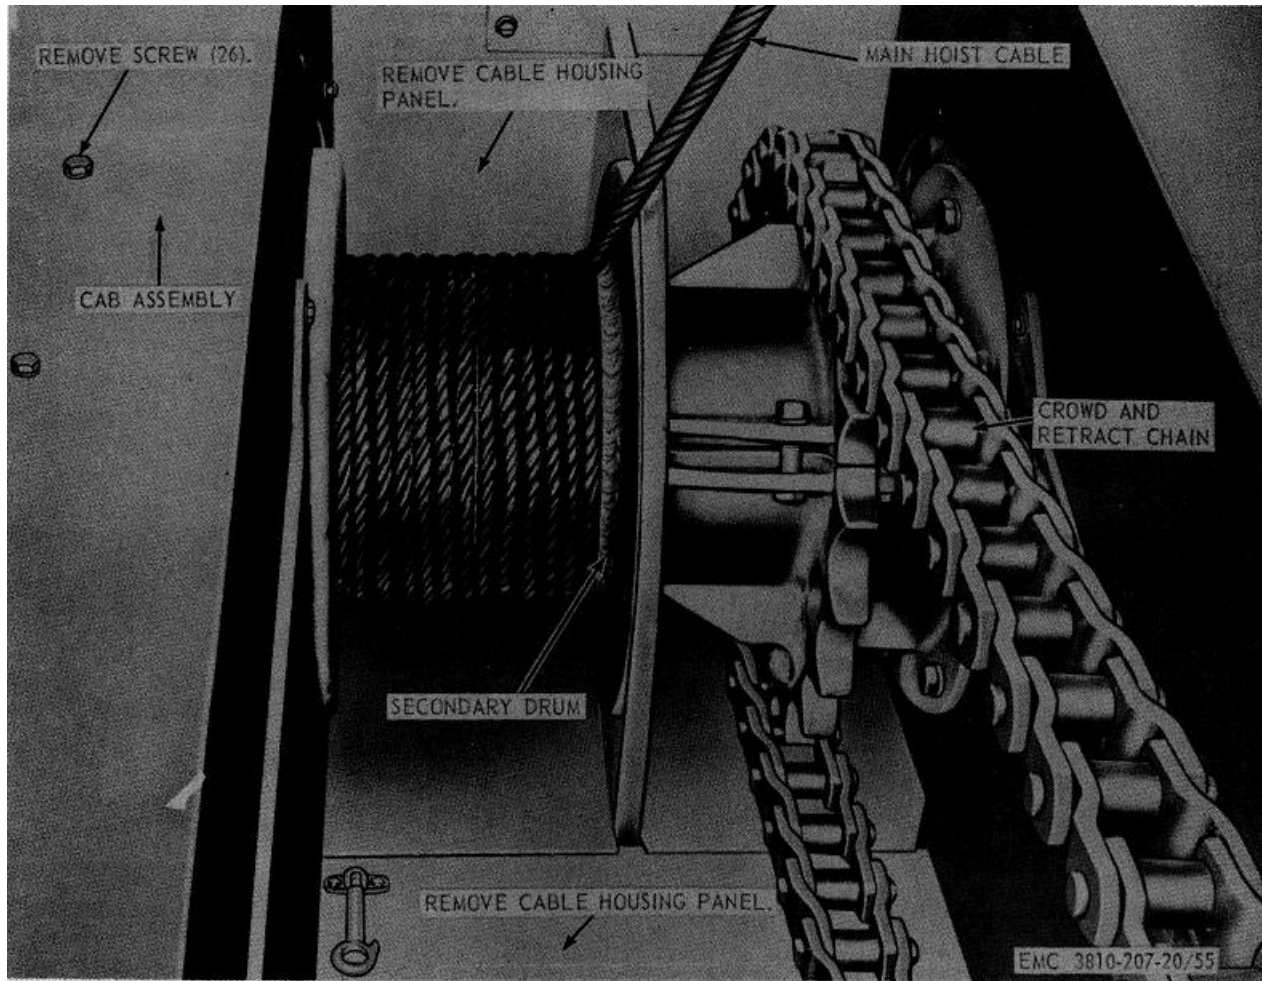

Figure 55. Cable housing panel, removal and installation.
a. *Removal.* Remove the cable housing panel as instructed on figure 55.
- (1) Clean the cable housing panels with an approved cleaning solvent.
- (2) Inspect the panels for bends, breaks, and other damage. Repair or replace panels as necessary. Paint panels as necessary.
c. *Installation.* Install the cable housing panel as illustrated on figure 55.